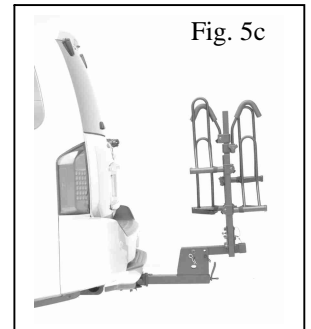

Fig. 5c
**Fold Together Feature (Fig. 5c)** The rack's wheel support tubes can be rotated to the side as an alternative way of folding up the rack. Referring, remove pin from hole D and rotate the wheel tube so it is pointing upwards, align holes E and re-insert the pin. Repeat for other side.